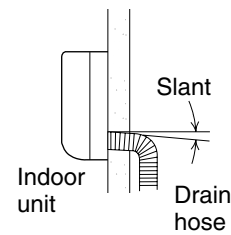

Fig. 3-51
- The drain hose should be slanted downward to the outdoors. (Fig. 3-51)